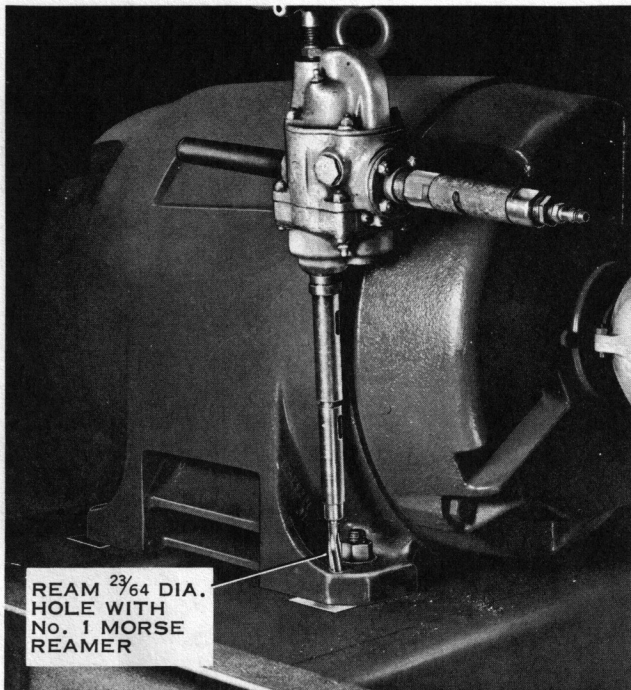
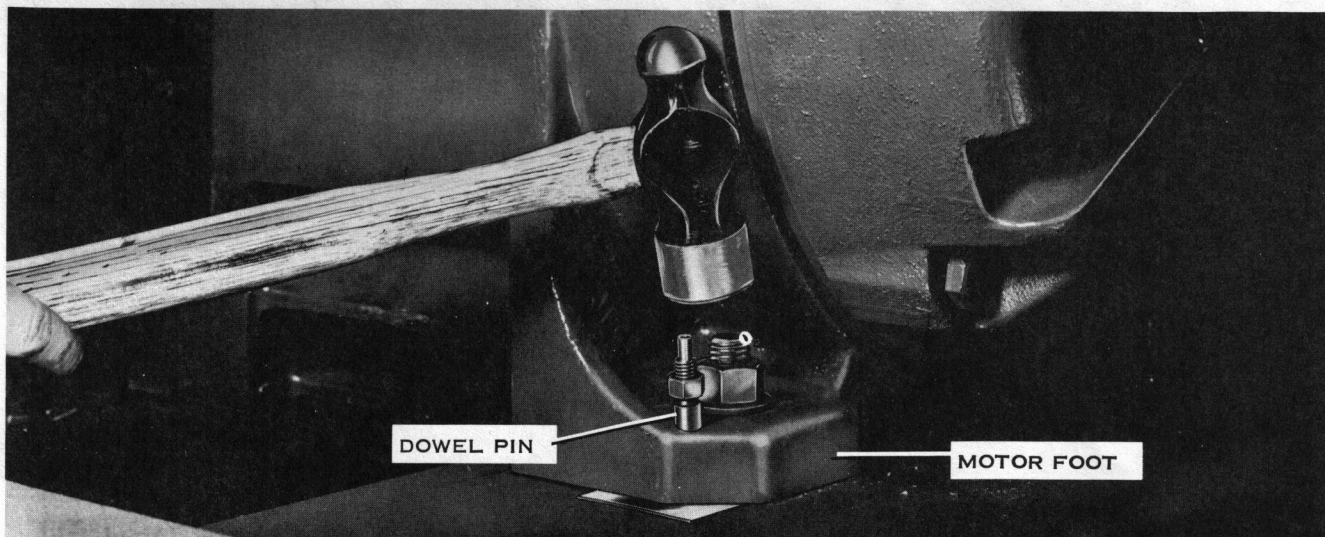

FIG. 13— REAMING HOLE IN MOTOR FOOT, SHIM AND MOTOR SUPPORT
FIG. 15— INSTALLING DOWEL PIN
18. Tighten motor tie-down bolts securely. Drill one 23/64" dia. hole through each front foot of the motor, shims and motor support (See Fig. 12). Ream these holes with a No. 1 Morse Taper Reamer (See Figs. 13 and 14). (Install the two provided dowel pins and check to see that they engage both motor foot and support.) If necessary ream the holes for deeper seating. Finally tap the dowel pins tightly in place. (See Fig. 15).